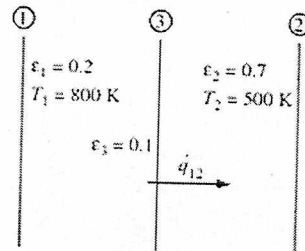

Figure 1 – Schematic representation for the above example
2. A thin aluminum sheet with an emissivity of 0.1 on both sides is placed between two very large parallel plates that are maintained at uniform temperatures  $T_1 = 800$  K and  $T_2 = 500$  K and have emissivities  $\epsilon_1 = 0.2$  and  $\epsilon_2 = 0.7$ , respectively, as shown in figure 1. Determine the net rate of radiation heat transfer between the two plates per unit surface area of the plates and compare the result to that without the shield.